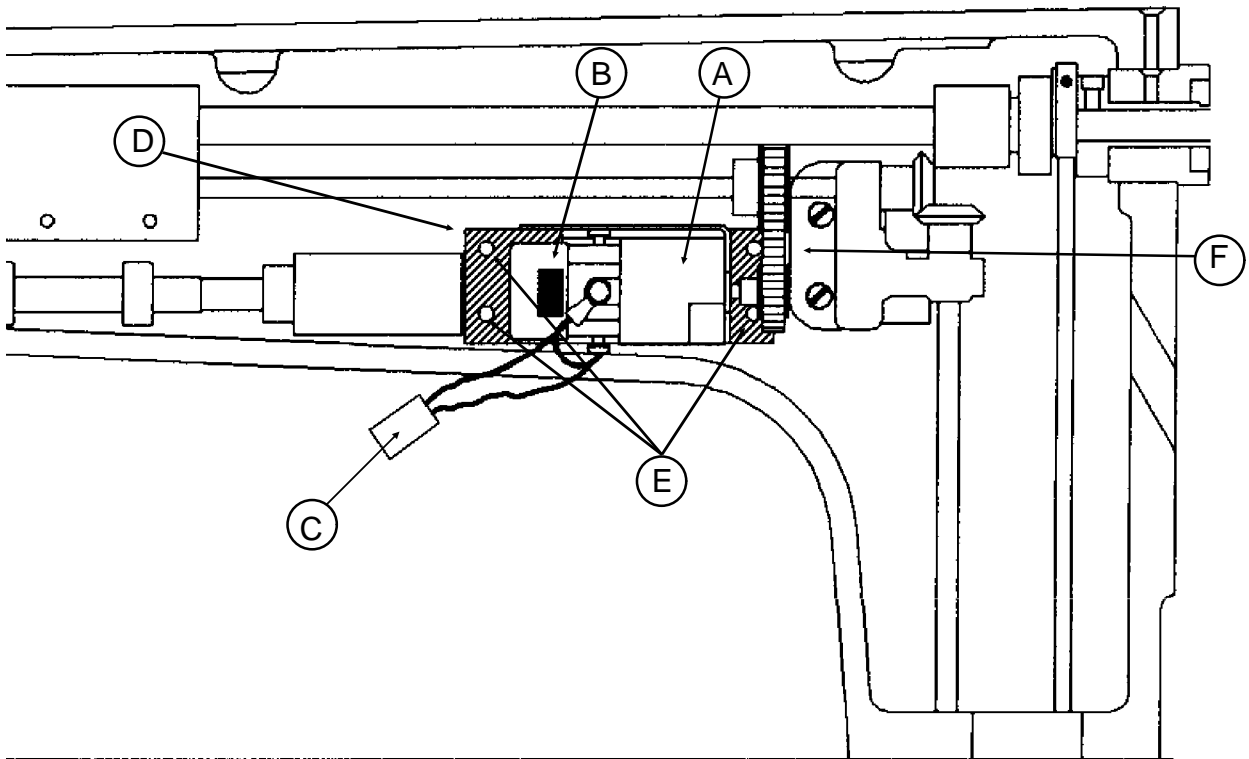

Figure 1
3. Unplug the Theta Encoder Cable Connector (Figure 1-B) from the Theta Motor (Figure 1-A). Remember the orientation of the Connector wires so that you can reconnect them properly in a later step.
4. Unplug the Motor Drive Cable (Figure 1-C).
5. With a sharp object, draw an outline of the Theta Motor Mount (Figure 1-D) on the Head Case. This is to allow you to replace the Motor Mount in the exact same place in a later step, thus maintaining Belt tension.
6. Remove the three Mounting Screws (Figure 1-E) holding the Theta Motor Mount to the Case.
7. Lift the Motor slightly so that it is free of the Theta Drive Belt (Figure 1-F) and remove the Motor and Mount from the Head Case.